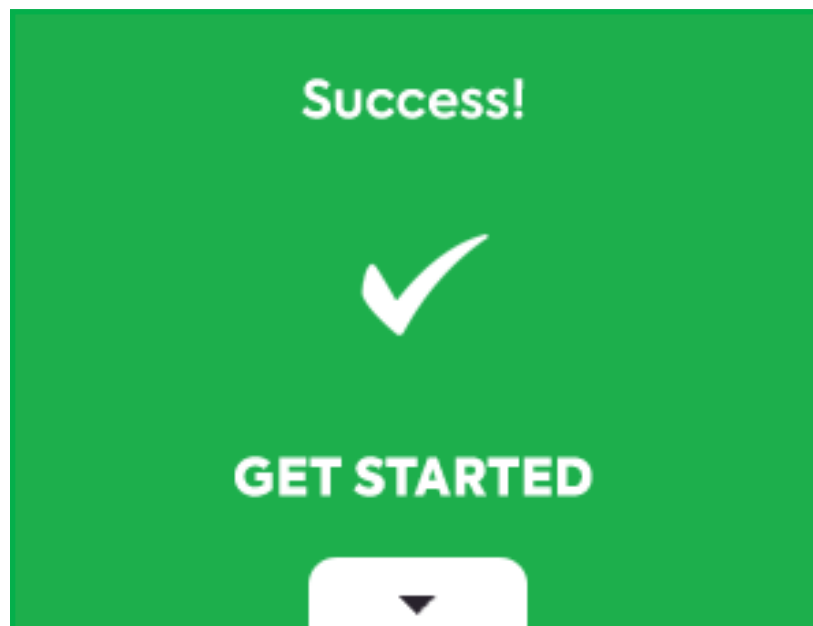

FIGURE 18
6. The console and controller are now successfully paired. (Figure 18)